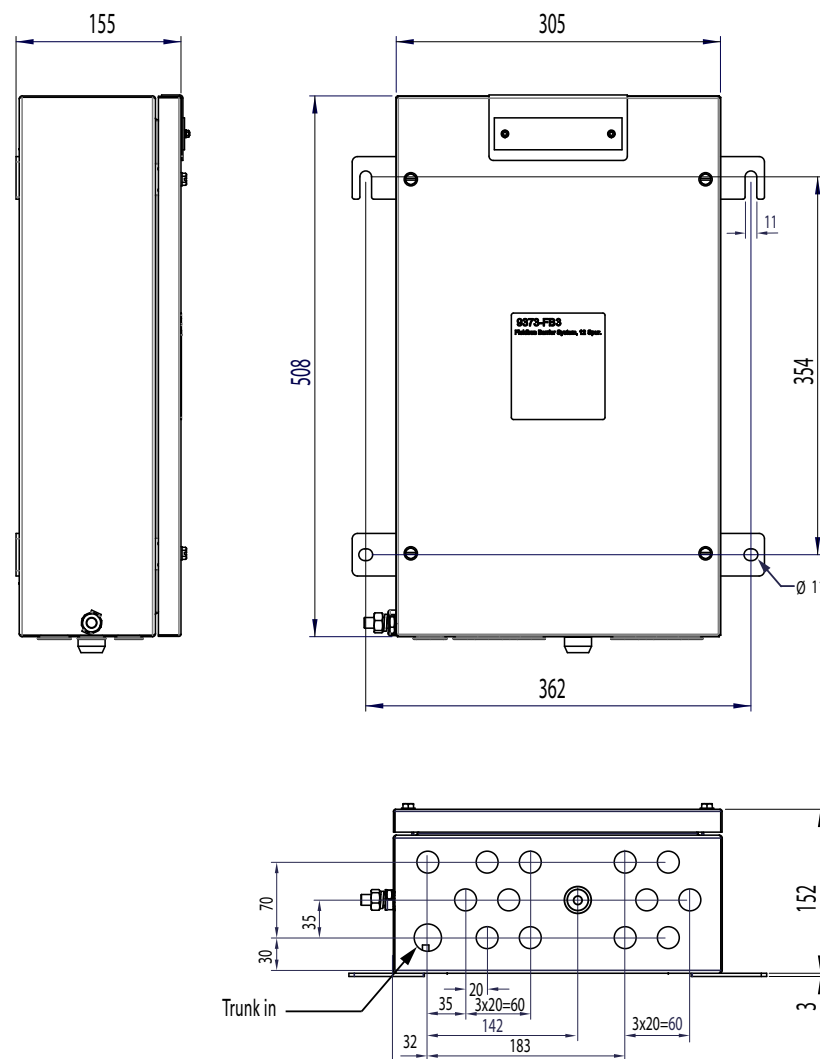

Figure 4.2 – Fieldbus Barrier Standard Large enclosure dimensions
1. The enclosure is also available with a stainless-steel mounting bracket for a traffolyte tag label. (See Figure 4.2 for more details.)